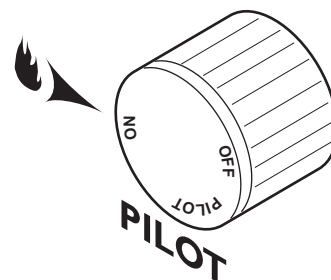

Figure 58 - On Position
Depress and turn the knob counterclockwise  to the “ON” position. *See Figure 58.* It will take less than four (4) seconds for the burner to ignite.